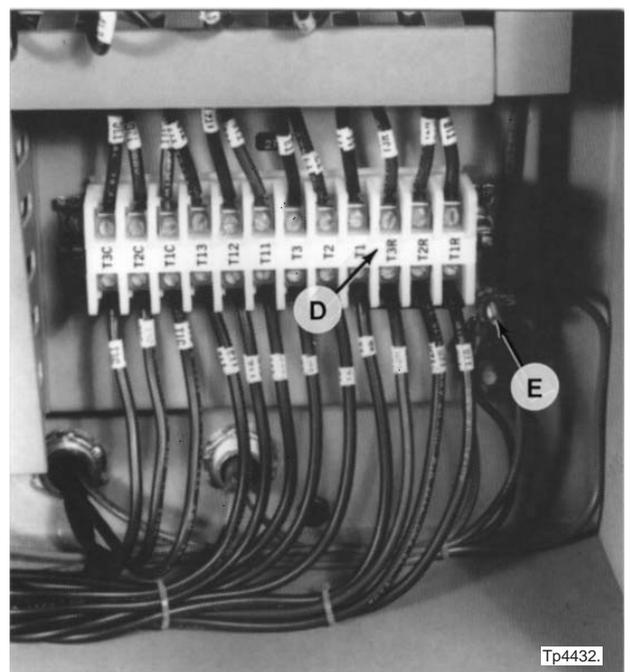

Figure 3.26 - Power Case (Partial Internal View)
10. Disconnect the three black wires connected to the bottom of T1R, T2R, and T3R on terminal block “D”, Figure 3.26 . (Reference 2TB)
6. Reroute and connect the three black wires labeled T1R, T2R, and T3R to their corresponding connections on the bottom of terminal block “D”, Figure 3.26 . (Reference 2TB)